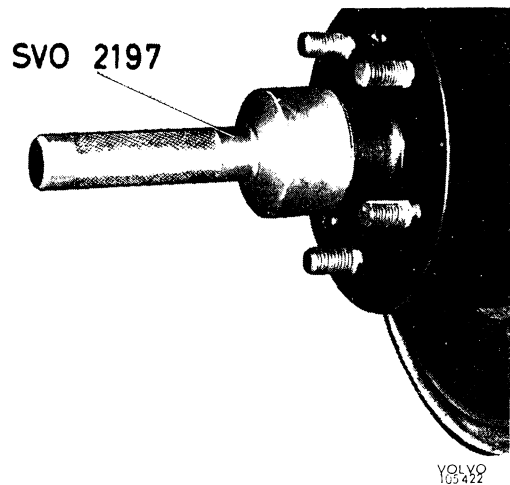
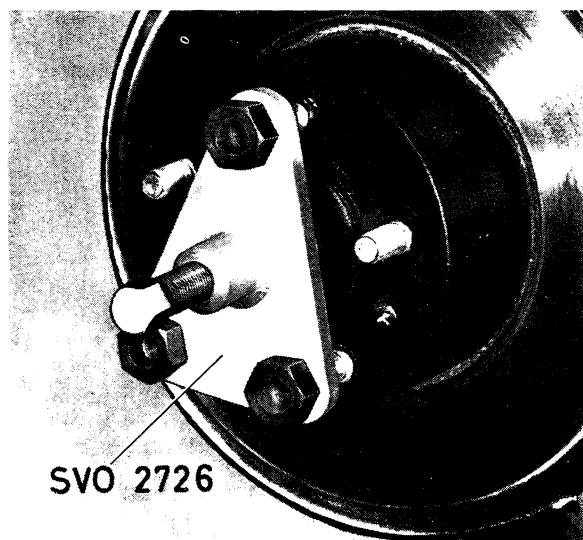
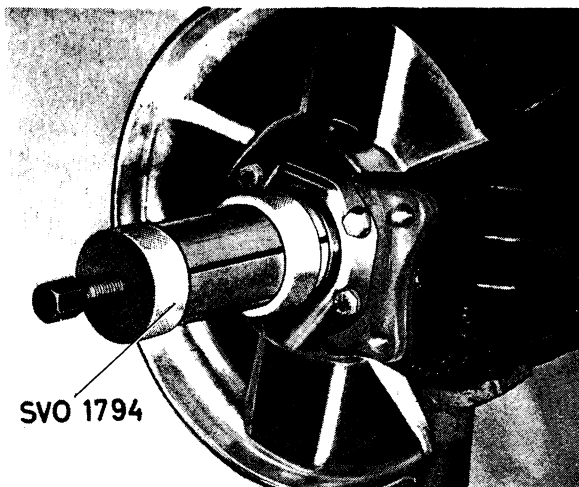

Fig. 6-18. Removing grease cap
Fig. 6-19. Removing hub
Fig. 6-20. Removing Inner bearing
5. Remove the grease cap with SVO 2197 according to Fig. 6-18. Remove the split pin and castle nut. Pull off the hub with puller SVO 2726, see Fig. 6-19. If necessary, pull off the inner bearing from the steering knuckle with SVO 1794 according to Fig. 6-20.